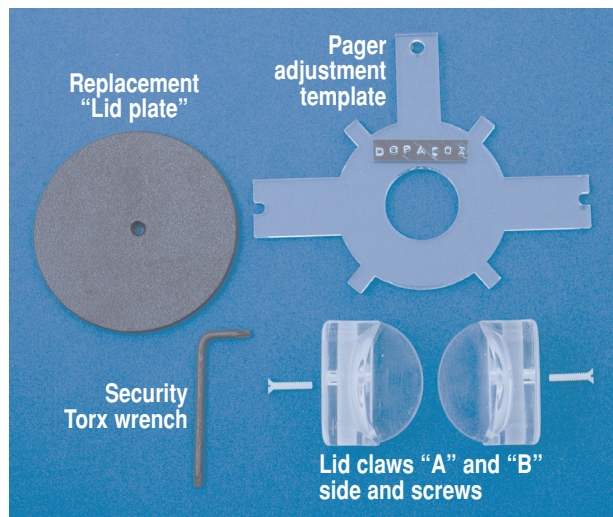

Figure 1
1. Using the standard screwdriver, remove the nylon screws from the current “lid claws” “side A” and “B” from inside the door (figure 1).
2. Using the Phillips screwdriver, remove the four “housing screws” (figure 1)
10. Using the standard #2 standard screwdriver install the provided replacement “claws”. Position “claw A” on the left and “claw B” on the right with the letters facing forward (figure 1). Both “claws A and B” must pivot freely to perform correctly. If either claw does not pivot freely, loosen the nylon screws 1/4 to 1/8 turn.